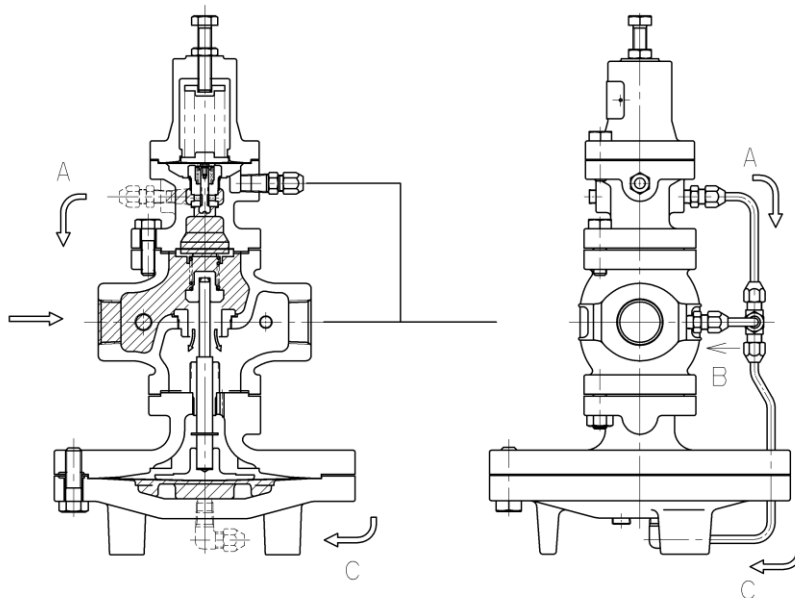

Fig. 3
- (3) When the flow rate through the pilot valve increase, the operating pressure in the main diaphragm chamber rises to override the pressure on upside of the main valve and the load of the main valve spring [13], opening the main valve. The fluid then begins to flow from the inlet side to the outlet side (see Fig. 3 below).